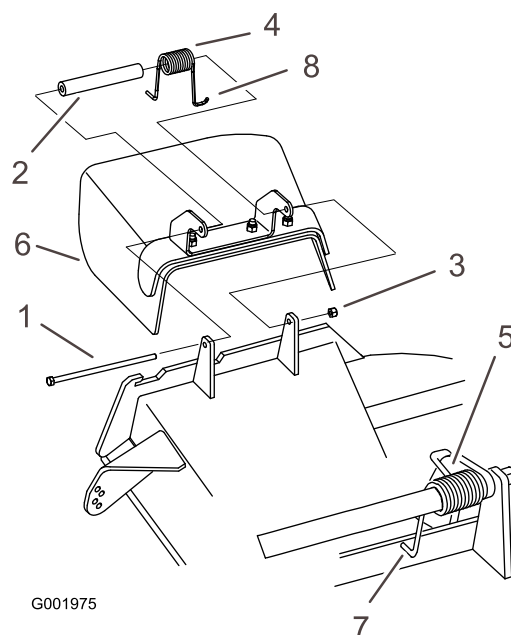

Figure 89
1. Remove the locknut, bolt, spring and spacer holding the deflector to the pivot brackets (Figure 89). Remove damaged or worn grass deflector.
Note: Make sure the **L** end of spring is installed behind deck edge before installing the bolt as shown in Figure 89.
3. Install bolt and nut. Place the **J** hook end of spring around grass deflector (Figure 89).